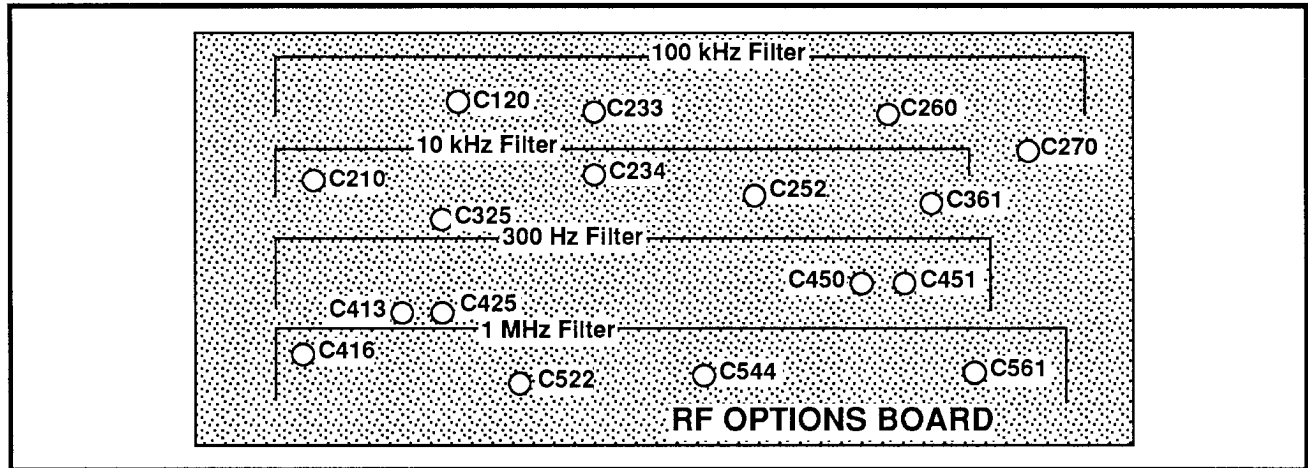

Figure 4-7. Option 14 and 300 Hz Filter adjustment locations.
(5) Save the display in one of the DISPLAY STORAGE registers.
(6) Change the resolution bandwidth to 1 MHz.
(7) Adjust C561, C544, C522, and C416 on the RF Options board (Figure 4-7) for highest amplitude, best filter shape, and centering about the stored 30 kHz filter.
(8) Set the reference level for a full-screen display, and enable the VID FLTR.
(9) Enable bandwidth mode by pressing APPL 9 0 and entering –6 dB, then pressing BKSP and 0.
(10) Check bandwidth shape factor. The bandwidth at the 60 dB down point must not exceed 7X the bandwidth at the 6 dB down point.
(11) Check that the filter amplitude is –20 dBm,  $\pm 4$  dB.
(12) Disconnect the signal from the RF INPUT.
(6) Adjust C270, C260, C233, and C120 on the RF Options board (Figure 4-7) for highest amplitude, best filter shape, and centering about the stored 30 kHz filter.
(7) Set the reference level for a full-screen display, and enable the VID FLTR.
(8) Enable bandwidth mode by pressing APPL 9 0 and entering -6 dB, then pressing BKSP and 0.
(9) Check bandwidth shape factor. The bandwidth at the 60 dB down point must not exceed 7X the bandwidth at the 6 dB down point.
(10) Check that the filter amplitude is -20 dBm,  $\pm 4$  dB.
(11) Disconnect the signal from the RF INPUT.